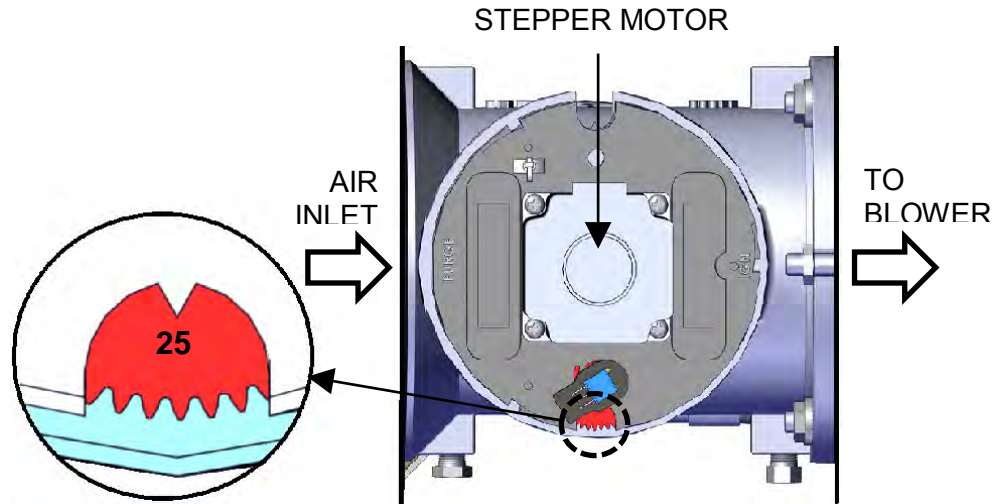

Figure 3-6: Air/Fuel Valve In Ignition Position
- (a) The Air/Fuel Valve rotates to the low-fire ignition position and closes the Ignition switch. The dial on the Air/Fuel Valve (Figure 3-6) will read between **25** and **35** to indicate that the valve is in the low-fire position.